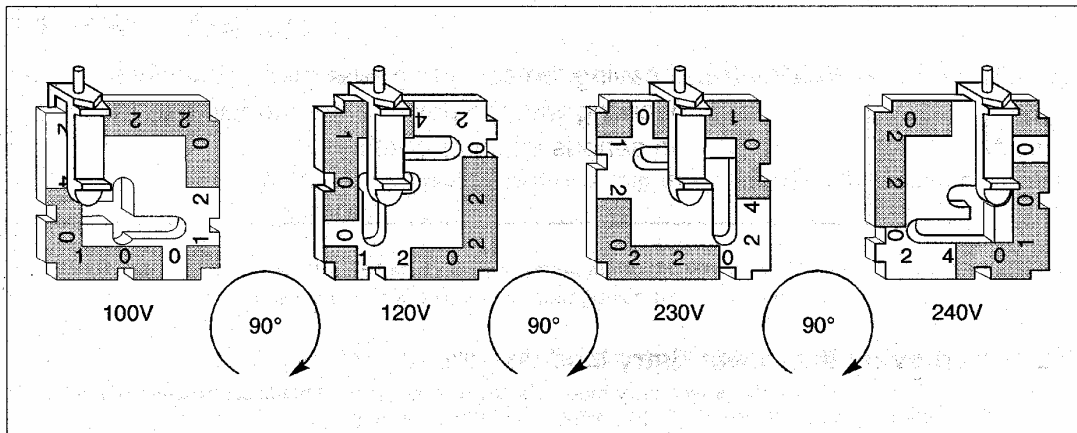

Figure 3.2 Selecting the Voltage
3. Change the selector card so that desired voltage is readable at the bottom of the card (Figure 3.2).
4. Orient the indicator pin so that it points up when the desired voltage is readable, as shown in Figure 3.2. Note that when the indicator pin is fixed, successive voltages are selected by rotating the card 90 degrees clockwise.